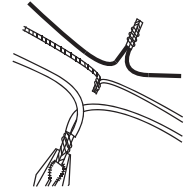

Fig. 3
3. Strip 3/4 of an inch of insulation from ends of white wire. Twist stripped ends of each strand of wire within the insulation with pliers. [Fig. 3] Snip ends after twisting strands together. Repeat for black, blue (if applicable) and green wires.